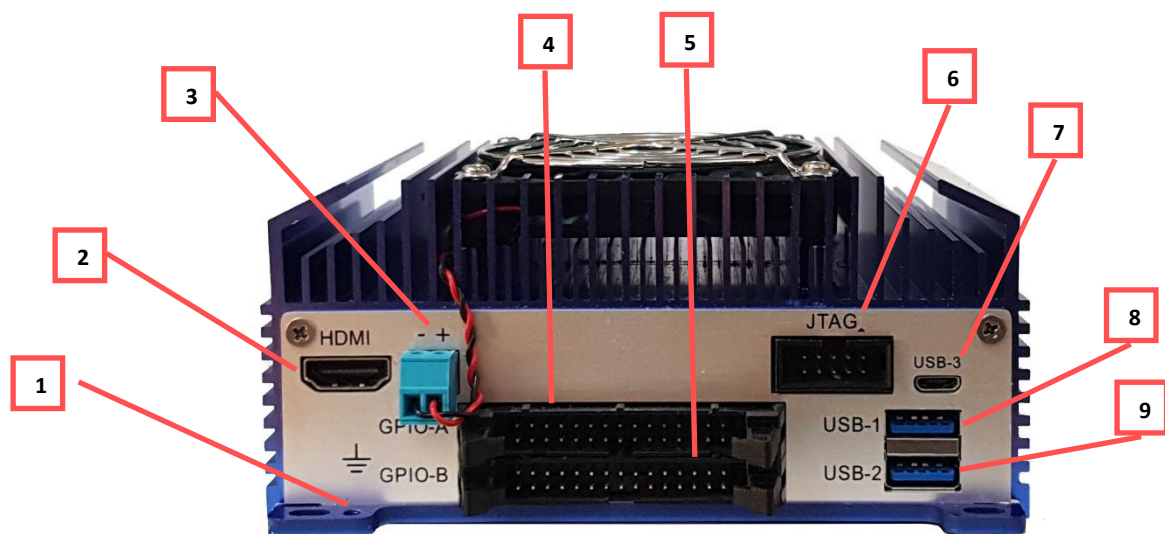

Figure 3 FantoVision40 Rear Panel
* The default fan provided with the FantoVision40 active cooling models requires up to 0.3 A. For FantoVision40 without a fan, you may use this connector to control your own external fan in a similar manner to connector 3 shown in Figure 3.